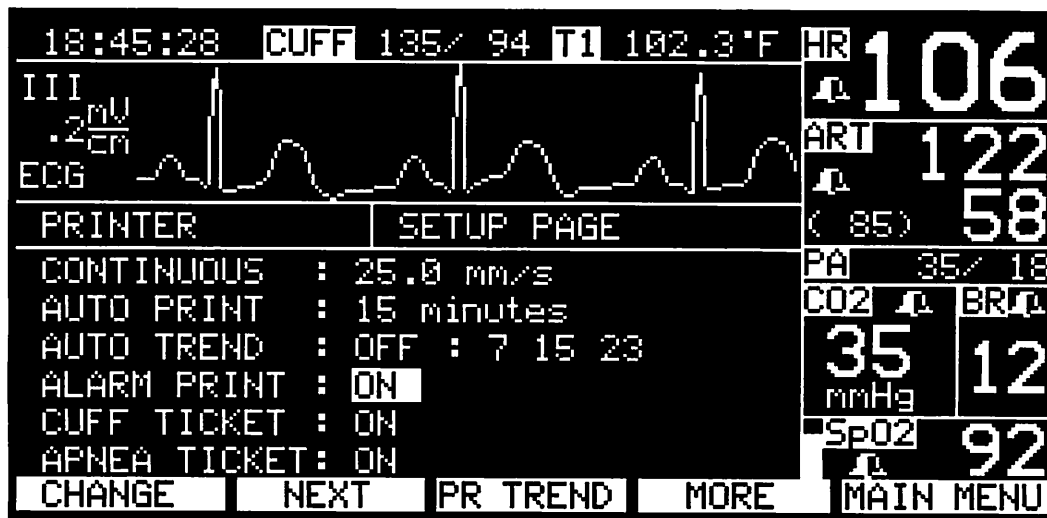

Figure 3-6. Printer Setup Window
- 2 The printer setup window appears (Figure 3-6).